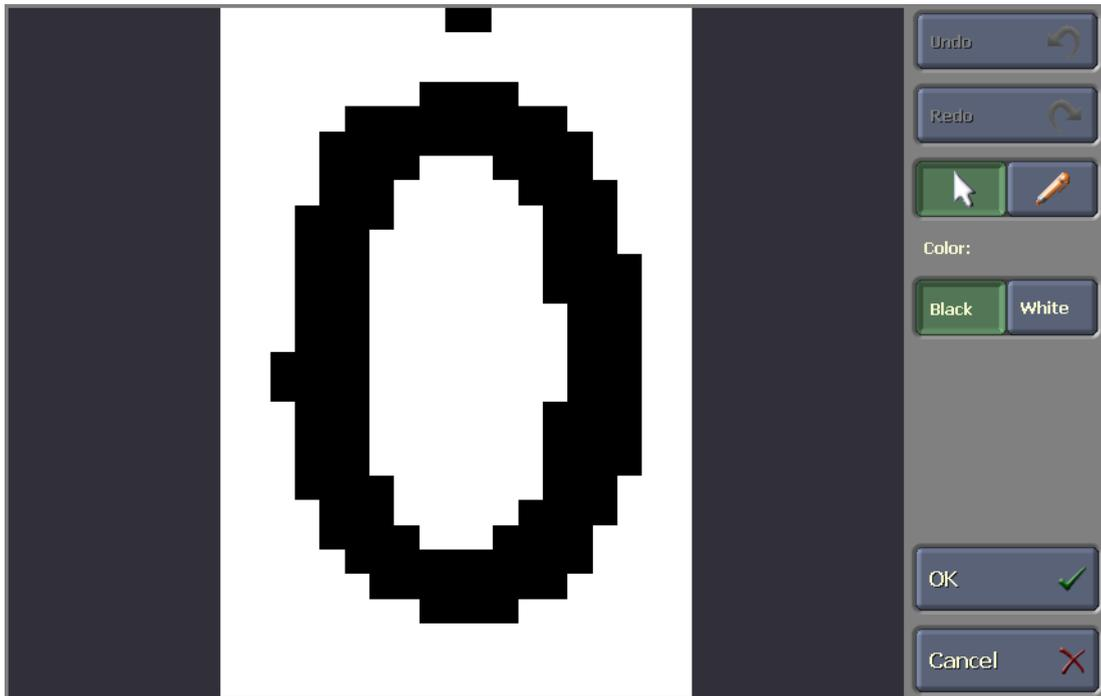

Figure A-9: Edit a Character Model
3. Click on pixel(s) in the font model to change their color. It is generally best to edit only those pixels in the model that are obviously not part of the character. For example, in Figure A-9 there are two extraneous pixels above the '0' that should be removed from the model by changing them from black to white. If needed, click the **Undo** button to reverse the last action, and the **Redo** button to reapply the last action.